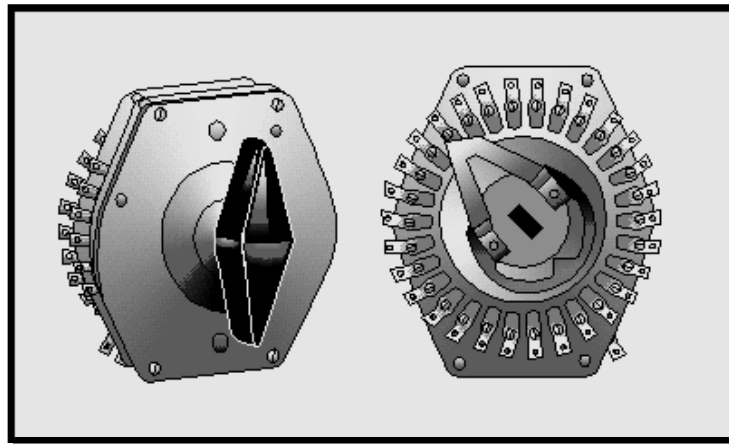

Figure 2-10.—Type JA switch.
**TYPE JA.**— The JA switch (fig. 2-10) was developed primarily for circuit selection in sound-powered telephone applications. It provides a greater number of selections and is a smaller switch than the JR switch. The JA switch is furnished only with common rotor sections. Sixteen-position and 30-position JA switches permit selection of 16 and 30 circuits, respectively. With the JR switch, the maximum number of possible selections is seven.